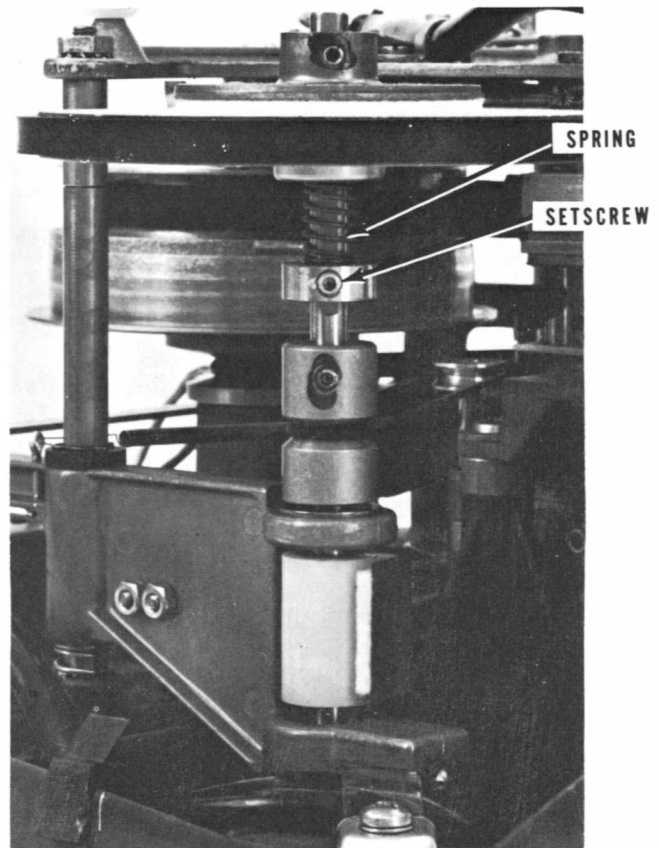

Fig. 4-4. *Adjusting Torque, Supply Turntable*
Step 1: Loosen the set screw on the supply collar (see Fig. 4-4).